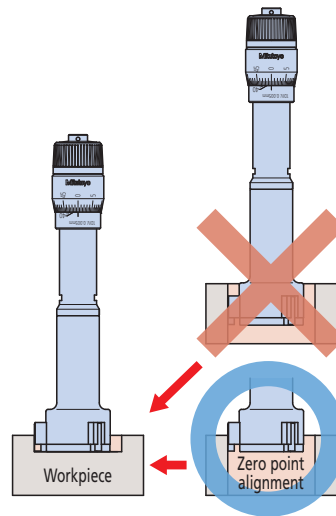

Fig. 1
4. If measuring at the tip of the anvil, make sure to align the zero point at the same bore depth within the calibrated setting ring. (Fig. 1)